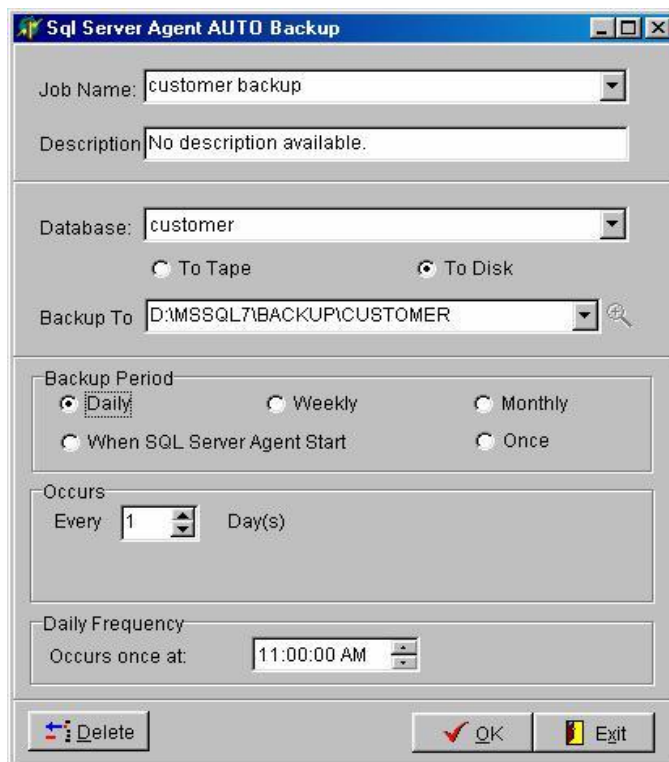

Figure 4-4
- 3) Return to SQL Tool window, enter SQL Server Agent AUTO Backup window as shown in Figure 4-4. Click **AUTO Backup** button to backup database automatically.